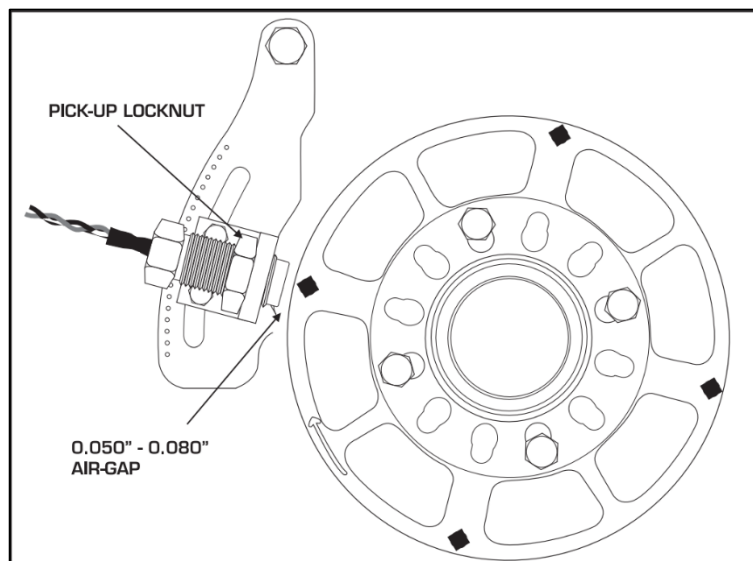

Figure 7: Setting the Air Gap.
2. With the brackets and trigger wheel mounted (with the arrow on the wheel facing out) position the pickup within 0.050" – 0.080" from the wheel using a feeler gauge then tighten the locknut (**Figure 7**). Do not over tighten the locknut.